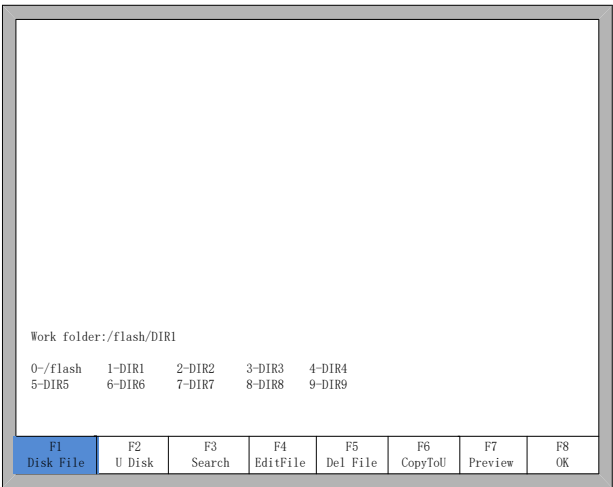

Fig 6.6 Folder 1
- 0-/flash 1-DIR1 2-DIR2 3-DIR3 4-DIR4 5-DIR5 6-DIR6 7-DIR7 8-DIR8 9-DIR9 。These 10 symbols interpret 10 folder path. The number before ‘-’ is the short key, press the corresponding number, switch current work folder into corresponding folder. For example, press 【1】 , it will show as the figure 6.6.